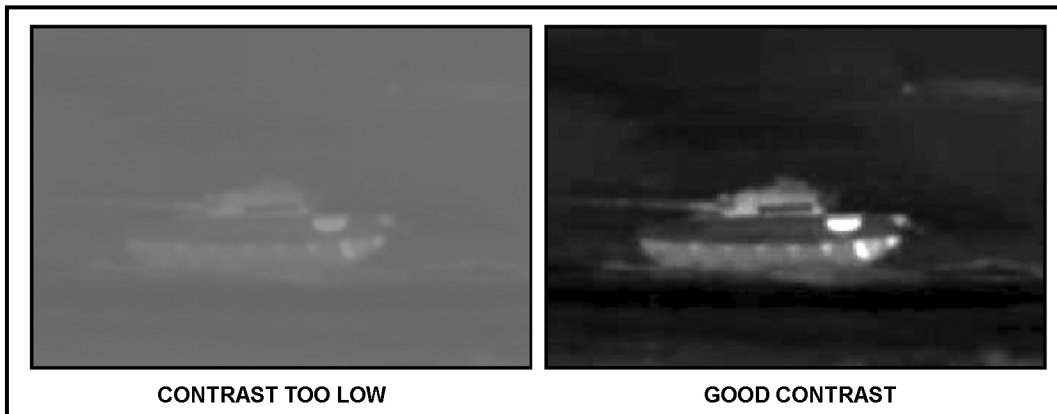

Figure C-20. Low versus good contrast adjustments.
- When contrast is too low (Figure C-20), all objects are adjusted into the shades of green in the middle away from the two extremes, so nothing appears black or bright green. The gunner increases the contrast by selecting CTRS on the BCF menu and pressing the BCF switch up. This increase spreads the objects out from the middle shades of green back toward the extremes of bright green and black.